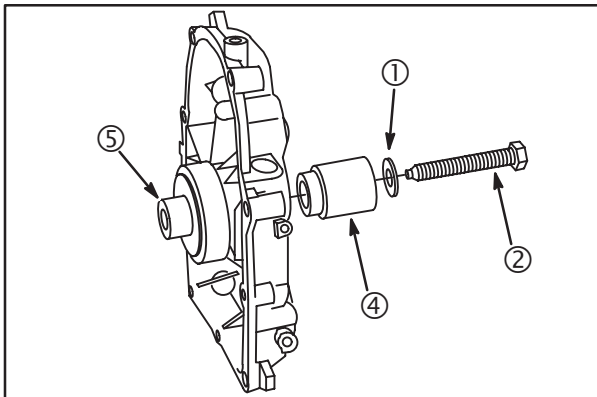

Fig. 16
1. Assemble washer (1), to puller screw (2). Insert through large end of driver (4), **Fig. 16**.
2. Place open side of support (5), over ball bearing.